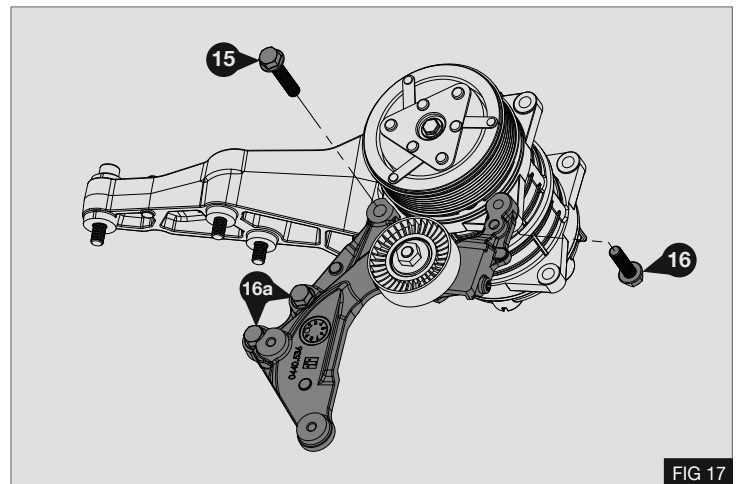

FIG 17
4. Insert M10x50 bolt (15) and M10x35 bolt (16) through the lower front compressor ears as shown opposite. Torque bolts (15) and (16) to 58Nm / 43lb. ft. – Fig 17
5. Torque bolts (16a) securing the adjuster bracket to 58Nm / 43lb. ft. - Fig 17